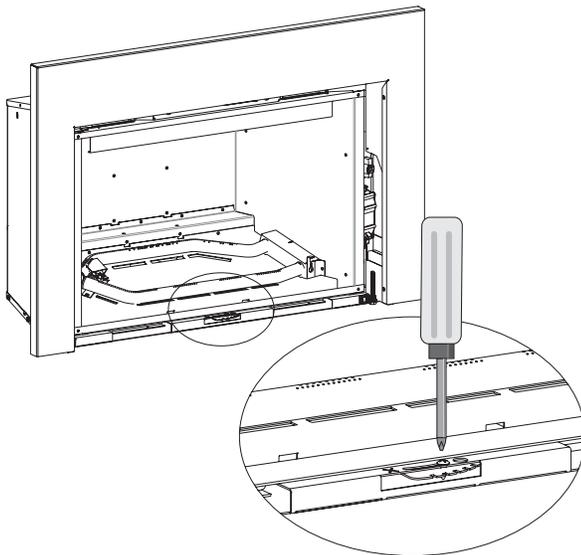

Figure 8 - Rear Burner Air Shutter
9. Loosen rear air shutter screw and rotate handle to the right until full open is achieved. Tighten screw. **See Figures 8 and 9.**